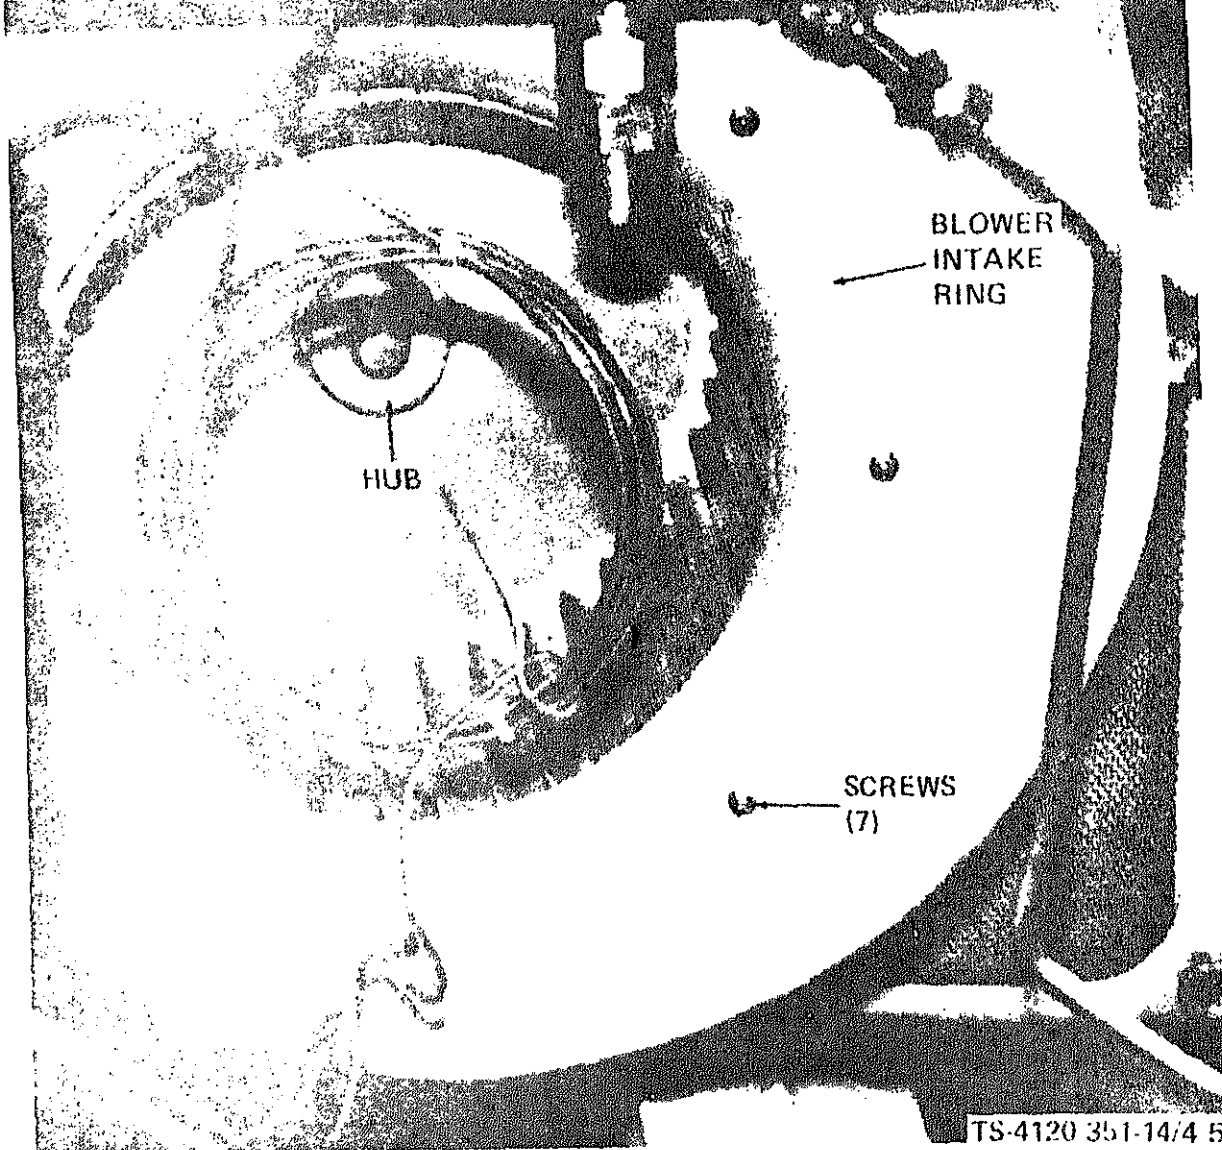

Figure 4-5. Circulating fan removal and installation.
(9) Remove blower intake ring (fig. 4-5) by removing seven screws.
(10) Loosen setscrew in hub of circulating fan and carefully remove circulating fan from the air conditioner.
(1) Position motor or motor mounting bracket
(3) Carefully install circulating fan and tighten setscrew in hub.
(4) Install blower ring (fig. 4-5) and secure with seven screws.
(6) Remove front panel by removing 1 screws.
(7) Remove blower intake ring (fig. 4-5) by removing seven screws.
(8) Loosen setscrew in hub of circulating fan and carefully remove circulating fan from air conditioner.
i. Remove blower intake ring (fig. 4-5) by moving seven screws.
e. Install blower intake ring (fig. 4-5) and secure with seven screws.